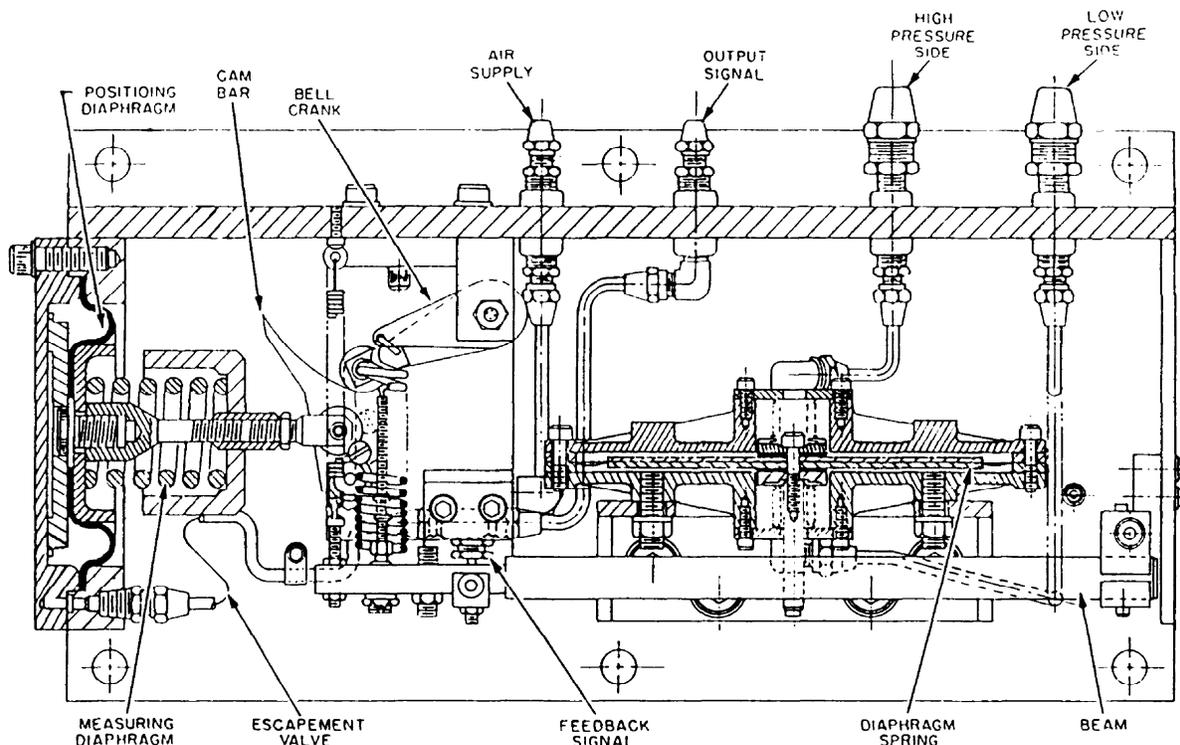

Figure 17-15.—Wind box airflow transmitter.
valve is located so that the stem follows the slightest movement of the beam. (See fig. 17-15.)
**CHARACTERIZING RELAY.**—To maintain efficient combustion, the fuel-oil flow to the burners must be regulated so that it is proportional to the airflow supplied to the burners. In this system, the signal generated by the wind box airflow transmitter (fig. 17-15) is proportional to actual combustion airflow and represents the oil flow demand signal. If the wind box airflow transmitter output signal were applied directly to the oil valve, this valve would act to regulate a proportional oil pressure. Since the oil flow varies in relation to the oil pressure, due to the characteristics of the burners, under this condition the oil flow will not be proportional to the airflow. Therefore, it is necessary to convert the output signal of the wind box airflow transmitter from